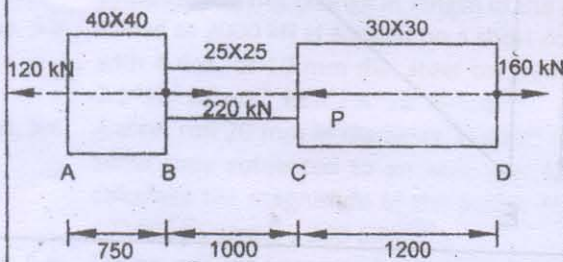

Fig. 10
- Que. 5.a A steel member ABCD, with three different square cross sections as shown in Fig.10 is subjected to concentrated axial loads. Calculate load P for equilibrium and compute the net change in length of the member.  $E = 200 \text{ GPa}$ . 03